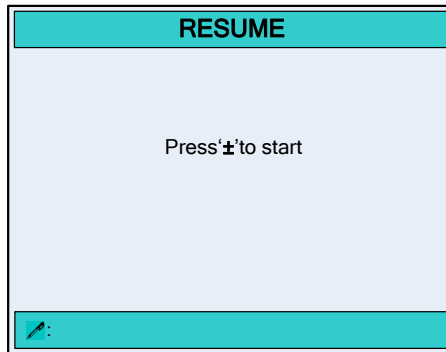

Figure 4-8 The **RESUME** page
On the **DIAGNOSE** page, move the cursor to parameter **7.RESTORE**. (or press the number key 7), and press  to enter the **RESUME** page, as shown in Figure 4-8.